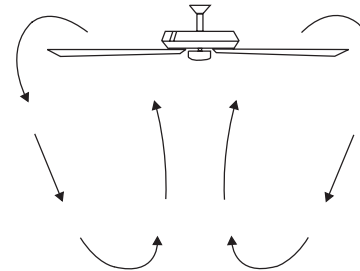

Fig. 24
**Cool Weather Operation:** Reverse (clockwise). An upward airflow moves warm air off of the ceiling as shown in Fig. 24. This allows you to set your heating unit on a cooler setting without affecting your general comfort.